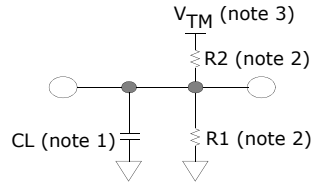

Figure 72. AC Output Load
- Output load (See Figure 72): CL= 30pF+1TTL